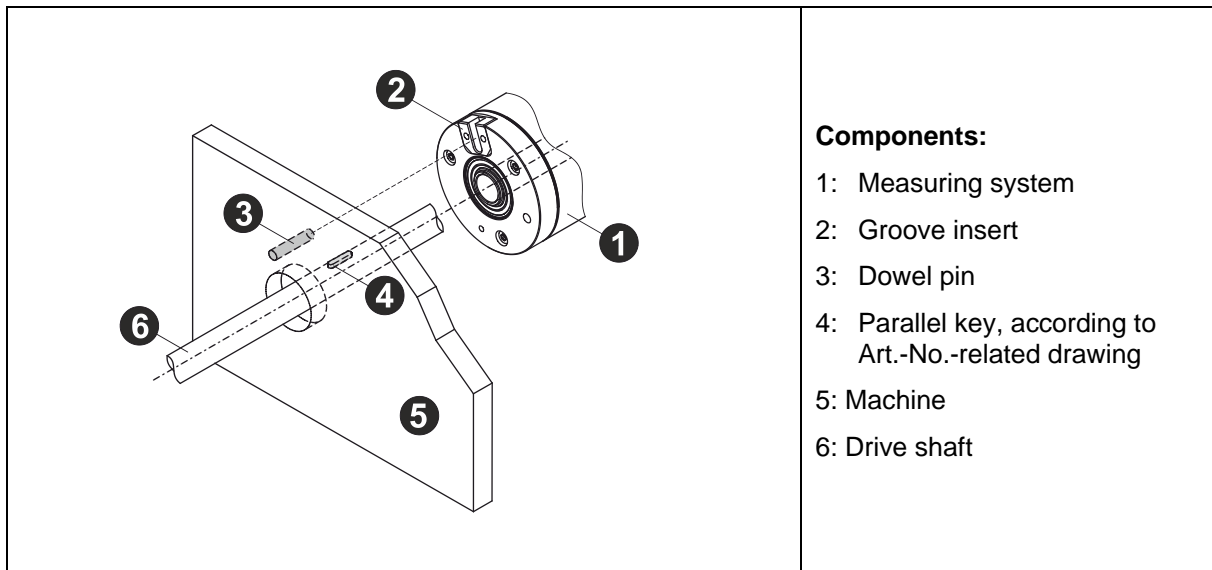

Figure 8: Mounting with dowel pin / groove insert, principle illustration
- The measuring system must be fixed via a dowel pin on the drive side, see Figure 8.